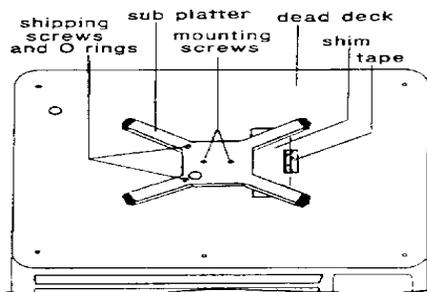

Figure 1
c). Remove the two 8-32 screws and rubber O-rings from the top of the subplatter. These parts along with the shims, MUST BE SAVED as they are required any time the scale is transported. See Figure 1.
d). Remove the shim from the top of the right side of the dead deck. See Figure 1. (Skip step 4.1, #4 ).